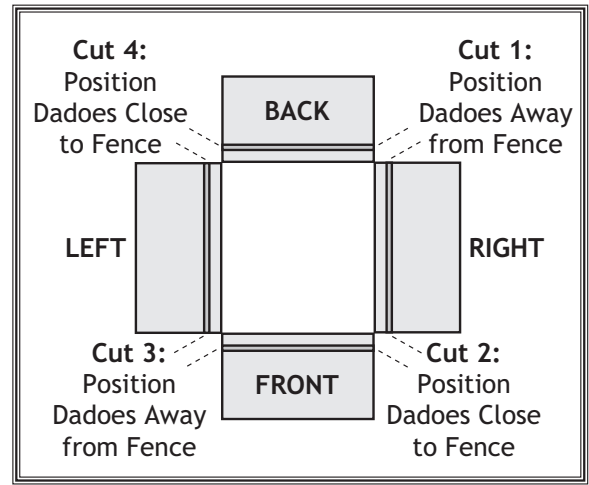
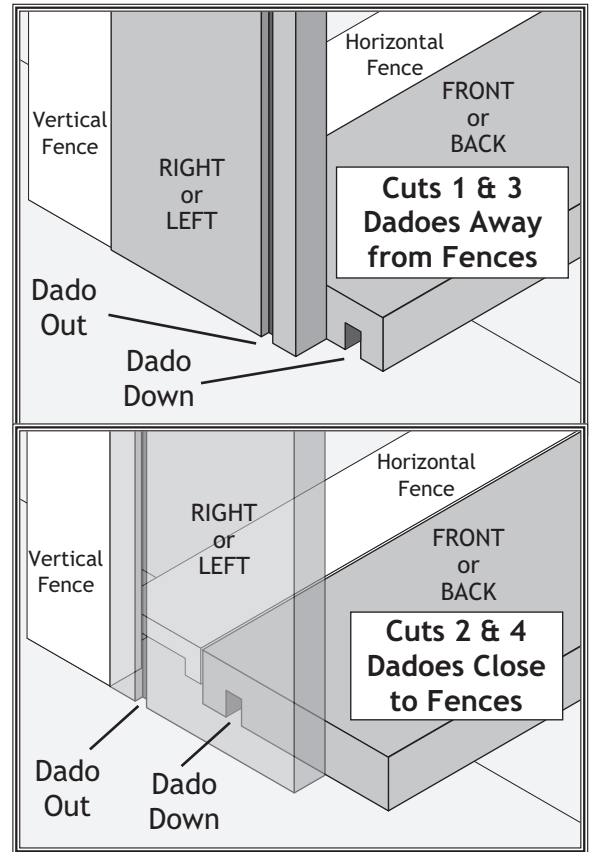

Figure 43. Drawer pieces laid out and marked inside face up; cutting order and workpiece position against fences also shown.
Figure 44. Workpiece positions for cuts.
The standard cutting order is shown in **Figure 43**. **Figure 44** shows the workpieces positioned with the dados close to or away from the fences.
1. Position the RIGHT workpiece on the vertical support bar, as shown in the top illustration in **Figure 44** (with the dado positioned out and opposite the fence), then clamp down the RIGHT workpiece.
2. Place the BACK workpiece on the horizontal table, as shown in the top illustration in **Figure 44** (with the dado positioned down and opposite the fence), then clamp down the BACK workpiece. The bottom of both workpieces should be flush with each other and both workpieces should be firmly against their respective fences.